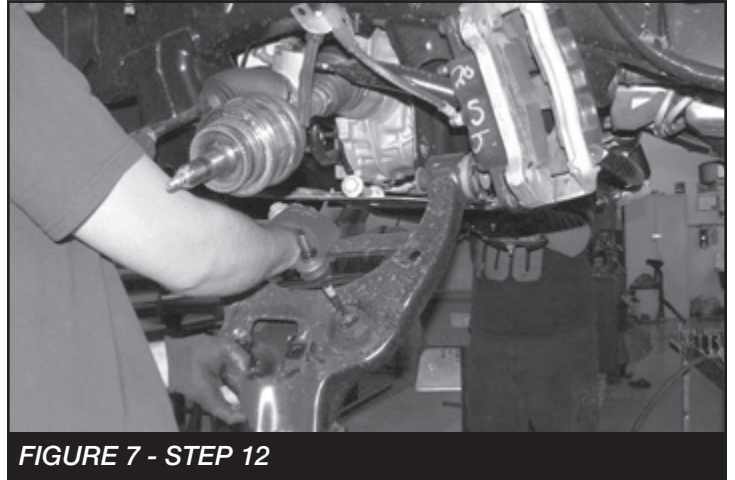

FIGURE 7 - STEP 12
12. Remove the lower control arm bolts from the frame pivots, disconnect upper sway bar nut and remove the lower control arm from the truck. Save hardware and lower control arm. **SEE FIGURE 7**